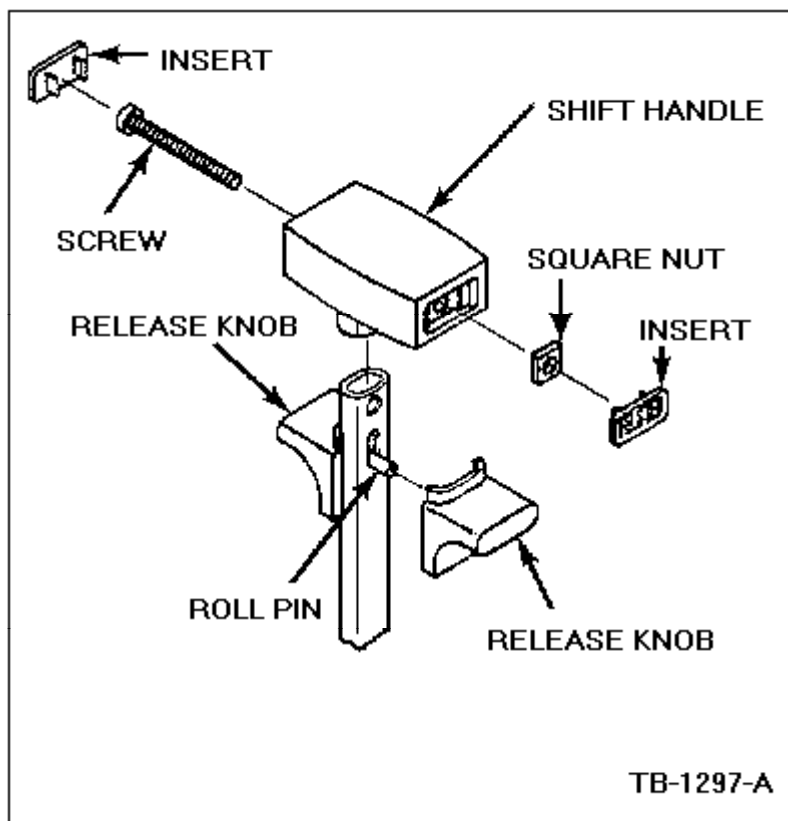

Figure 2 - Article 90-25-18
1. Remove and throw away both existing knob inserts, Figure 2.